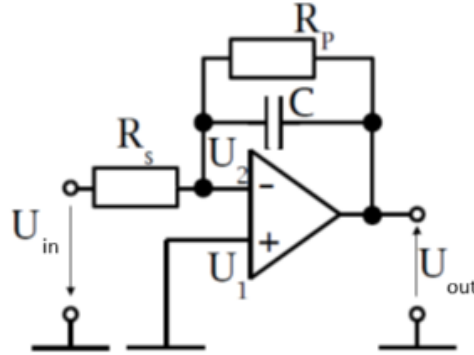

Figure 10: Integrator circuit
- M5: Examine the operation of the integrator circuit using 1 kHz, 100 mV sine, square, and triangle inputs (Fig 10)! Let $C = 10 \text{ nF}$, $R_s = 100 \text{ k}\Omega$, $R_P = 10 \text{ M}\Omega$. What is the role of R_P ? Try the circuit both with and without R_P , and describe your observations! Display the input signal on the oscilloscope as well, and examine the output signal as a function of it. Include images of the observed waveforms in the report.